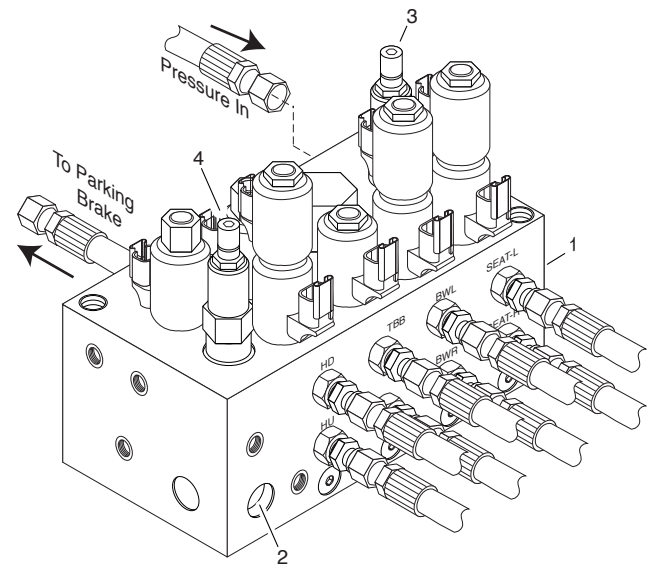

Figure 33. Hydraulic Control Assembly
3) If the pressure is low, remove cap from top of relief valve using vise grips (Figure 33 Ref 3) and adjust set screw clockwise using a 1/4” allen wrench. If pressure is high, adjust set screw counterclockwise.
3) If the pressure is low, remove cap from top of relief valve using vise grips (Figure 33 Ref 4) and adjust set screw clockwise using a 1/4” allen wrench. If pressure is high, adjust set screw counterclockwise.